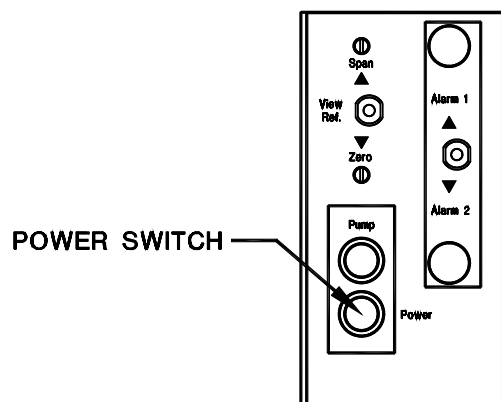

Figure 3: Power Switch
5. Turn the analyzer on using the power switch. See Figure 3.